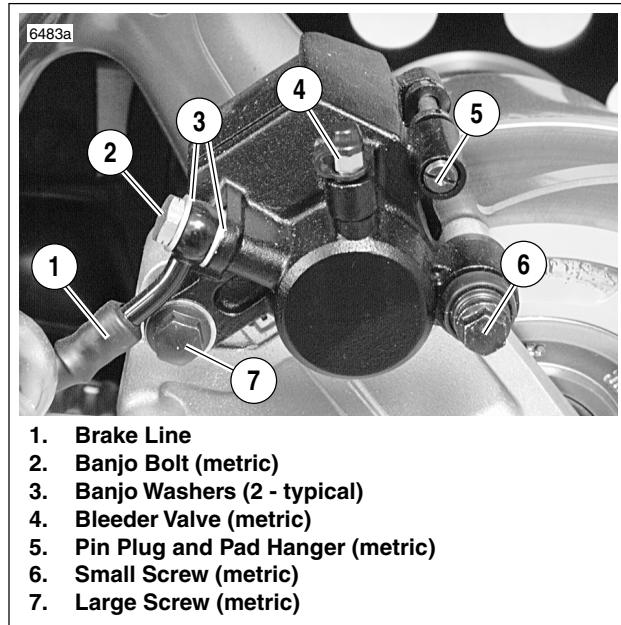
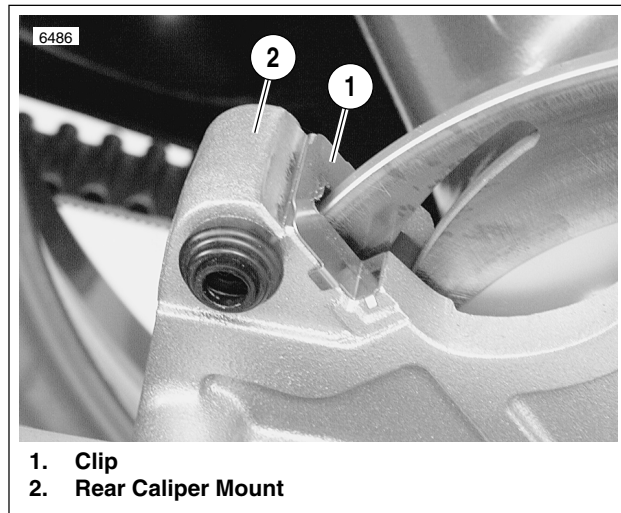

Figure 2-41. Rear Brake Caliper (Typical)
Figure 2-42. Caliper Mount Clip
2. See Figure 2-41. Remove banjo bolt (2) (metric) and two banjo washers (3) to disconnect brake line (1) from caliper. Discard banjo washers.
3. Remove small screw (6) (metric) and large screw (7) (metric) to detach caliper from mount.
4. See Figure 2-42. Remove clip (1) from rear caliper mount (2) if necessary.
1. See Figure 2-41. Remove pin plug and pad hanger (5) (metric) to free brake pads.
1. See Figure 2-42. Install caliper mount clip (1) if removed.
2. See Figure 2-41. Install caliper assembly on caliper mount. Brake pad surfaces must face rear brake rotor.
- b. Install large caliper screw (7) (metric). Tighten to 18-22 ft-lbs (24-30 Nm)
- c. Install small caliper screw (6) (metric). Tighten to 14.5-18 ft-lbs (20-24 Nm).